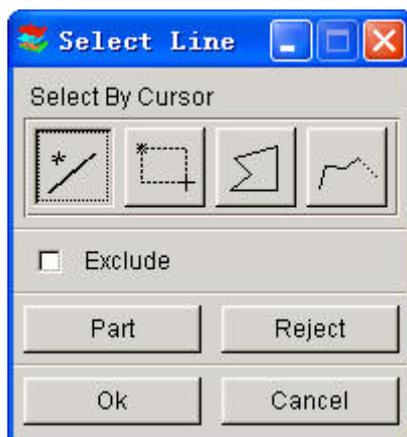

Figure 4.3.2 Select Line
- Select LINE(S), and the SELECT LINE dialog window is displayed. See Figure 4.3.2.